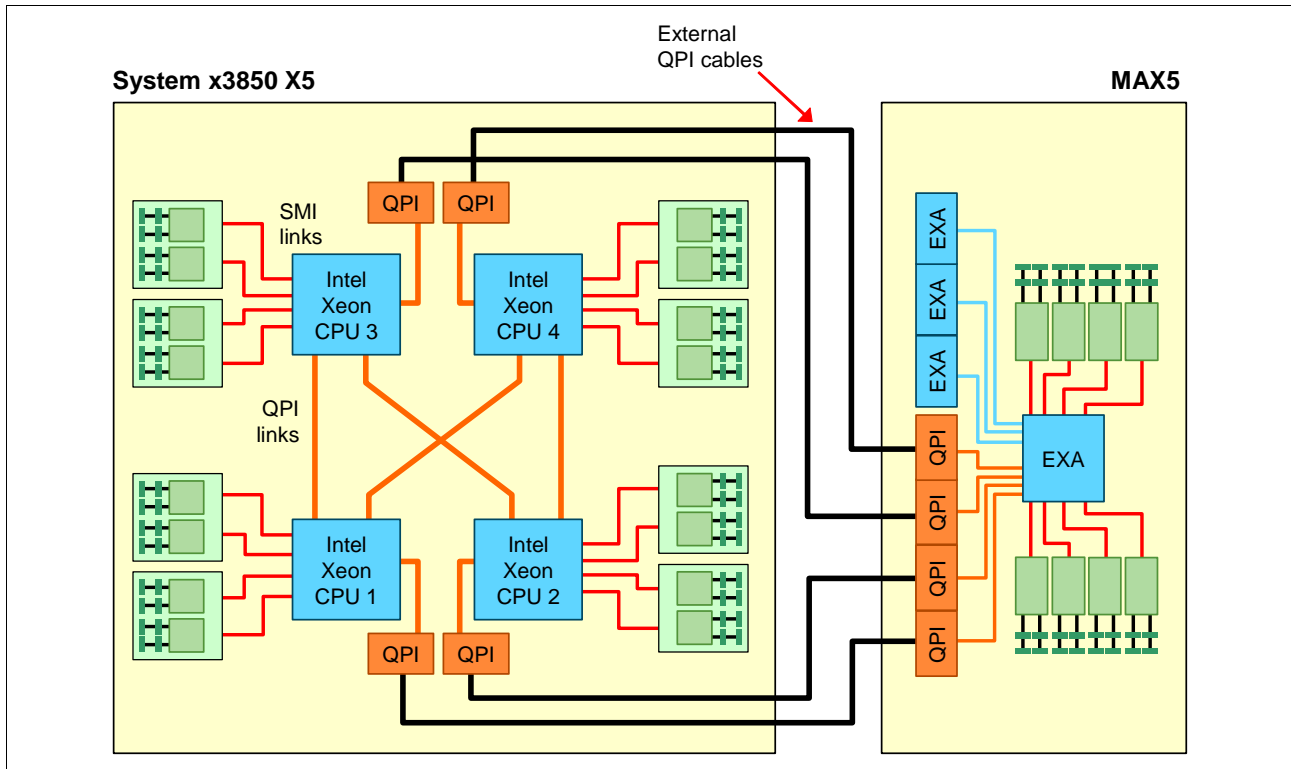

Figure 3-12 The x3850 X5: Connectivity of the system unit with the MAX5
Figure 3-12 on page 62 is a block diagram of the x3850 X5 connected to a MAX5.
The MAX5 is connected to the x3850 X5 by using four cables that connect the QPI ports on the server to the four QPI ports on the MAX5. Figure 3-12 shows architecturally how a single-node x3850 X5 connects to a MAX5.
**Tip:** As shown in Figure 3-12 on page 62, you maximize performance when you have four processors that are installed because you then have four active QPI links to the MAX5. However, configurations of two processors or three processors are still supported. If only two processors are required, consider the use of the x3690 X5.
**Tip:** As shown in Figure 3-12 on page 62, you maximize performance when you have four processors that are installed because you have four active QPI links to the MAX5. However, configurations of two and three processors are still supported.